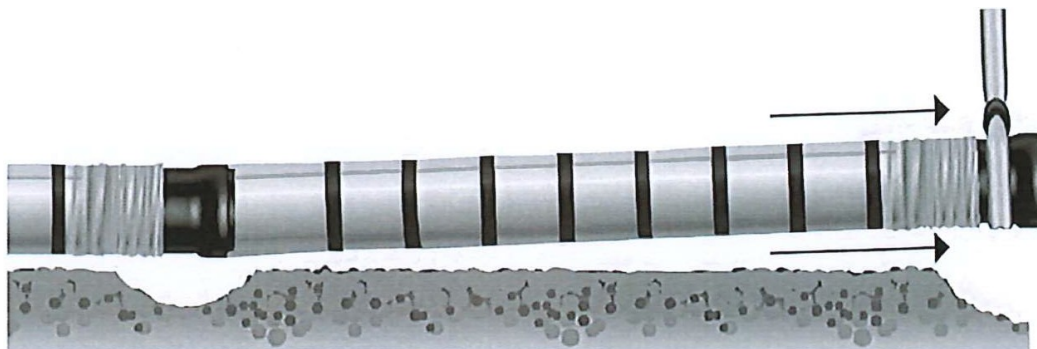

Fig. 1
- * M.U.D. uses AWWA C105 Modified Method A in wet trench conditions for all pipe installation regardless of the presence of ground water. Circumferential wraps of tape shall be applied at 2' intervals along the barrel of the pipe, as shown in Fig 1.